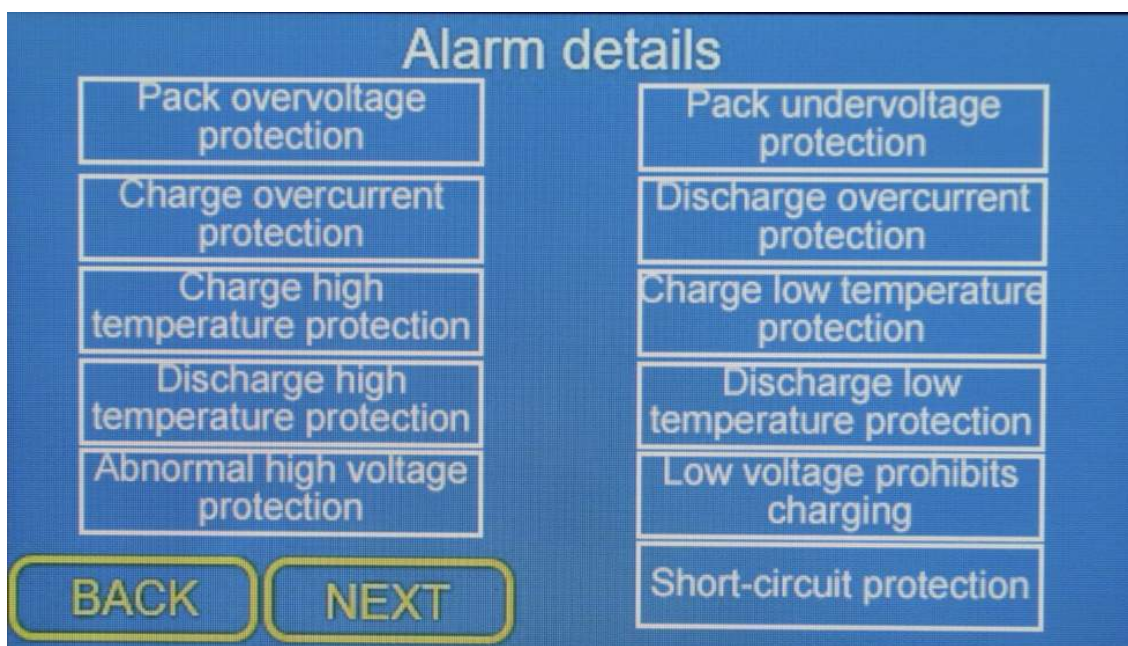

Figure 39: LCD User Interface – Navigating to Alarm Details
- Continue clicking “Next” until “Alarms Details” is shown as per Figure 39.